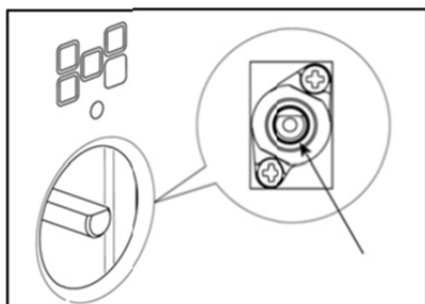

Fig. 12
- For all burners except for the wok burner, insert a small slotted screwdriver into the hole on the valve rod (Fig. 12) and turn the choke screw to the right or left until the burner flame is adjusted to minimum.